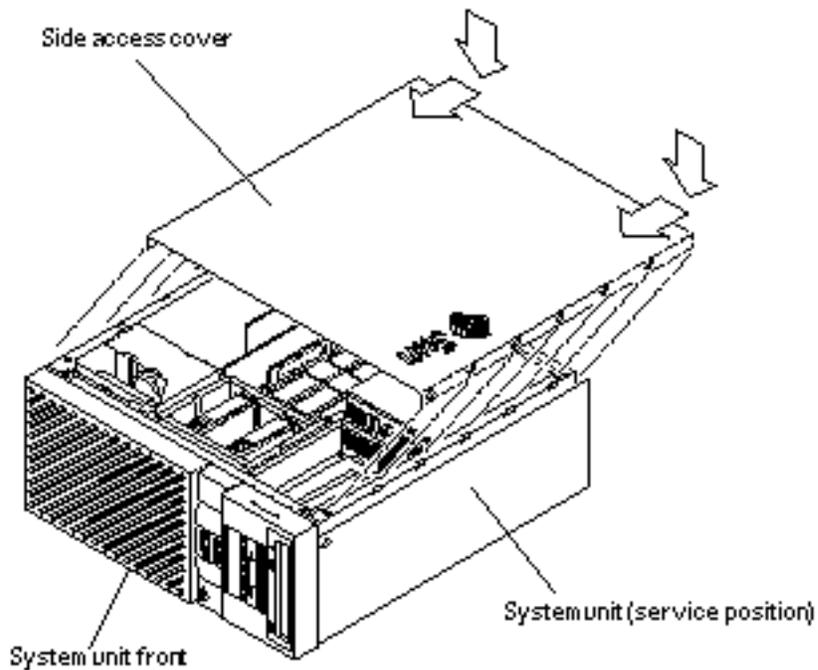

Figure 1-13 Replacing the Side Access Cover
- 11. Replace the side access cover (Figure 1-13).**